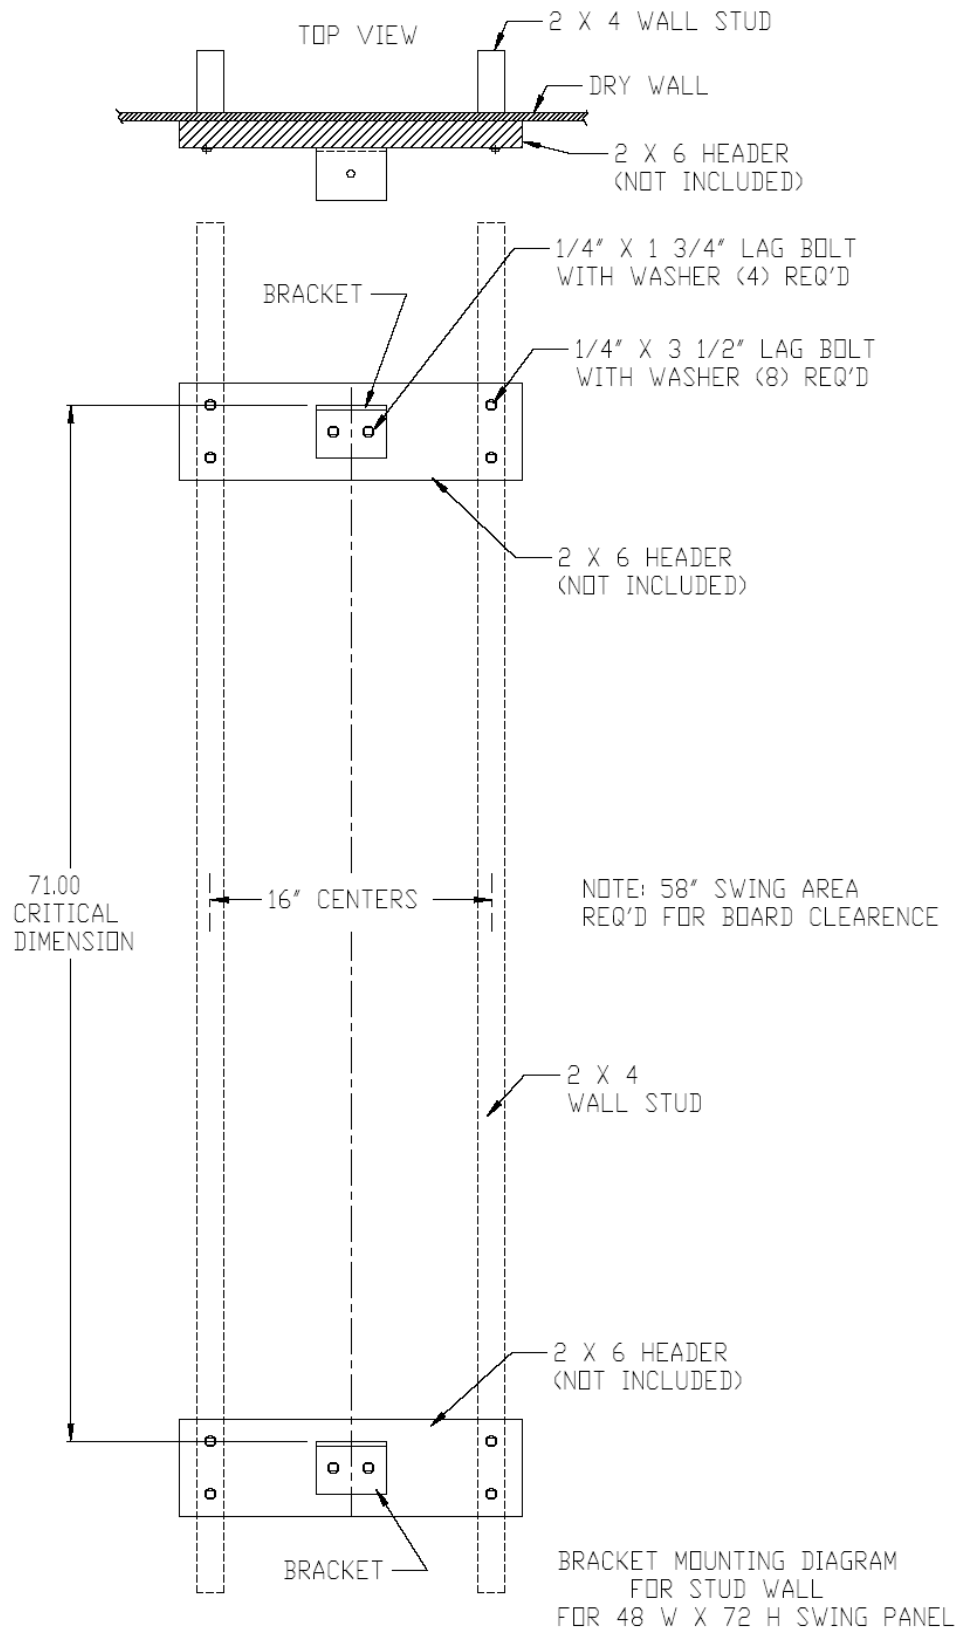

FIGURE 1-4
Note: Before starting step 6, it will be necessary to determine if your walls are plumb and structurally sound. It may be necessary to install some type of shim system or header for either or both, top and bottom wall brackets. (For 2" x 4" studed walls refer to figure 1-4 for header installation.)
**Step 6. Bottom wall mount bracket Installation for concrete walls** (refer to figure 1-1, 1-2 & 1-4): Each bracket/angle has been pre-drilled for wall and panel attachment. You will be installing your bottom bracket first. **A)** Determine the appropriate height you want to install off the floor or work surface. **B)** Using one angle bracket as your template, with surface having only one hole on top and flat surface with two holes against the wall at the desired height. **(Avoid mortar joints between concrete blocks.)** **C)** Making sure wall mount bracket is level; mark both hole locations on the wall. **D)** Using 3/16" masonry bit and hole location markings on the wall, drill two holes 1-1/4" in depth. **Do Not Ream Out or Oversize the holes** **E)** Align bracket back over holes drilled and using a #2 Phillips head bit and electric drill set at medium speed, install (2) 1/4" x 1-1/4" masonry screws. **. WARNING: Over-tightening could cause holes to become oversized. If holes become enlarged, you must properly repair and re-drill, relocate mounting brackets or install a wood header.** For 2 x 4" studed walls refer to figure 1-4 for installation.
When installing a system to other types of wall structures it is recommended that a 2" x 6" header be securely installed to multiple studs and that 1/4" lag bolts be used in place of the supplied masonry bolts to attach wall brackets. (Refer to figure 1-4 for header installation)